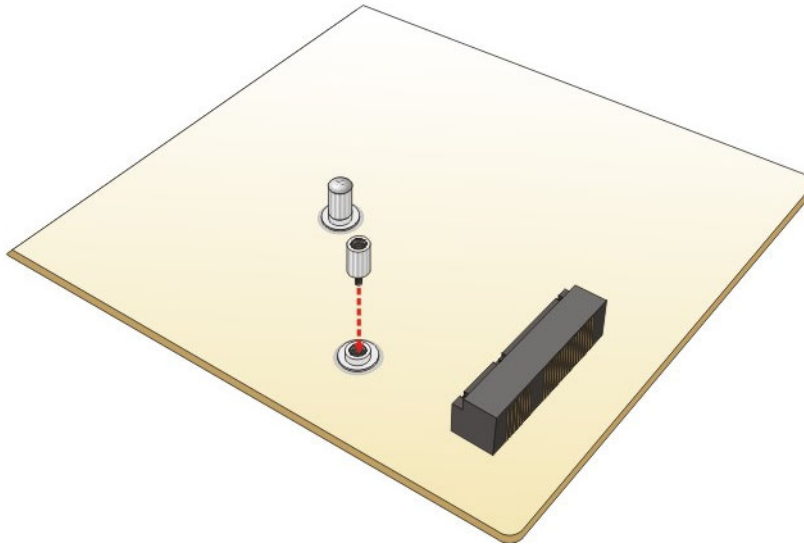

Figure 4-11: Installing the Standoff
Step 2: Install the standoff to the screw hole for the half-size PCIe Mini card. Install the supplied standoff to the screw hole for the half-size PCIe Mini card (Figure 4-11).